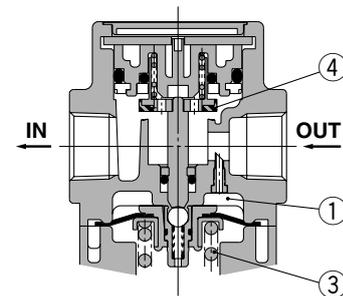

Figure 2 Backflow
When the inlet pressure is higher than the regulating pressure, check valve ② closes and operates as a normal regulator (Figure 1). When the inlet pressure is shut off and released, check valve ② opens and the pressure in diaphragm chamber ① is released into the inlet side (Figure 2).
This lowers the pressure in diaphragm chamber ① and the force generated by pressure regulator spring ③ lifts the diaphragm. Valve ④ opens through the stem, and the outlet pressure is released to the inlet side (Figure 2).